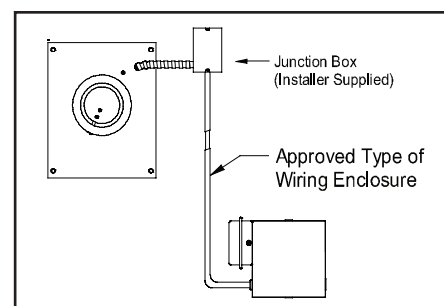

Figure 10
1. Remove one of the knockouts from the side of the junction box where the pressure switch is mounted. Install the flexible conduit connector onto the CK-43F junction box and secure with fastening nut. If remote mounting the CK-43F junction box, mount the flexible conduit connector onto a 2" x 4" installer supplied junction box. (See Figure 10)